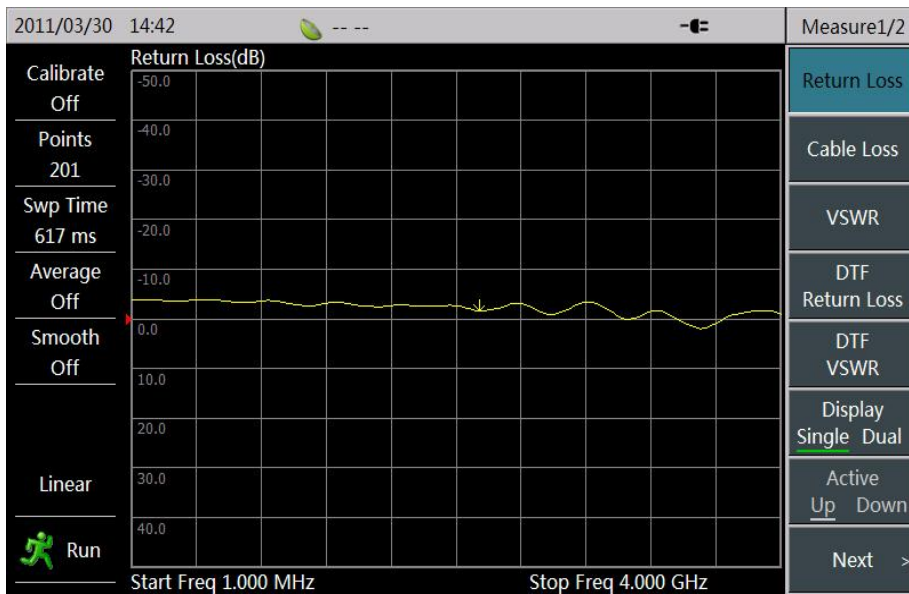

Figure 3.6 Selection of Measurement Format
2. Select [Return Loss] menu to set the current measurement format of instrument as “Return Loss”, as shown in Figure 3.6.